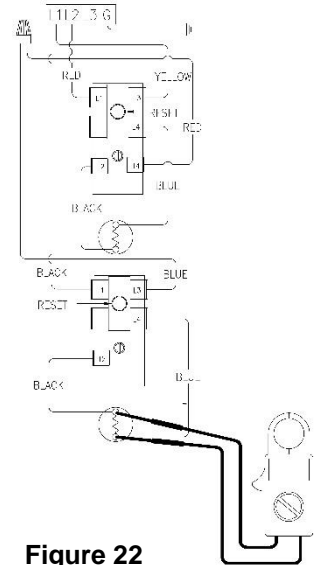

Figure 22
8. Check voltage across lower element (see Figure 22).